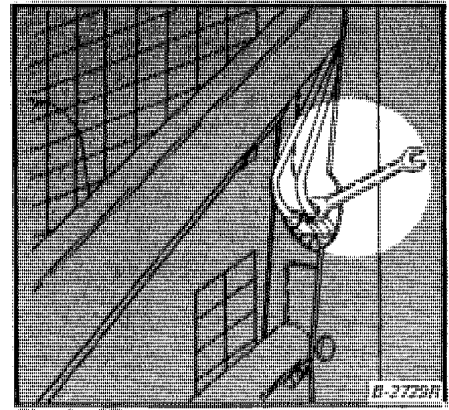

Fig. 1-37 Disconnect Tube From Hoseslines
- (1) Fully lower lift arms.
- (2) Disconnect the hydraulic hoses from the base end of the hydraulic cylinder (Fig. 1-37). Put plugs in the hydraulic hose ends.
- (3) Start the engine and run at slow RPM. Push the bottom of the lift pedal. Look for fluid leakage at the open cylinder ports. Move the throttle to fast RPM and check the open cylinder ports for leakage.
- (4) The cylinder piston seals are good if only a small amount of oil come from the open cylinder ports.
- (5) Install the hoses and check rod end of cylinder for leakage past the head seals.